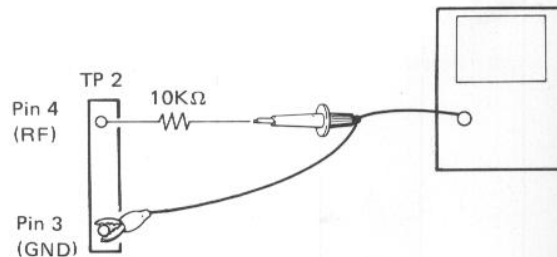

Fig. 11-4
Diagram illustrating the test setup for tangential adjustment. The setup includes a circuit board with two pins: Pin 4 (RF) and Pin 3 (GND). A probe is connected to Pin 4, and its tip is inserted through a 10KΩ resistor. The other end of the resistor is connected to Pin 3. The probe is also connected to an oscilloscope, which is shown as a box with a screen. The diagram is labeled Fig. 11-4.